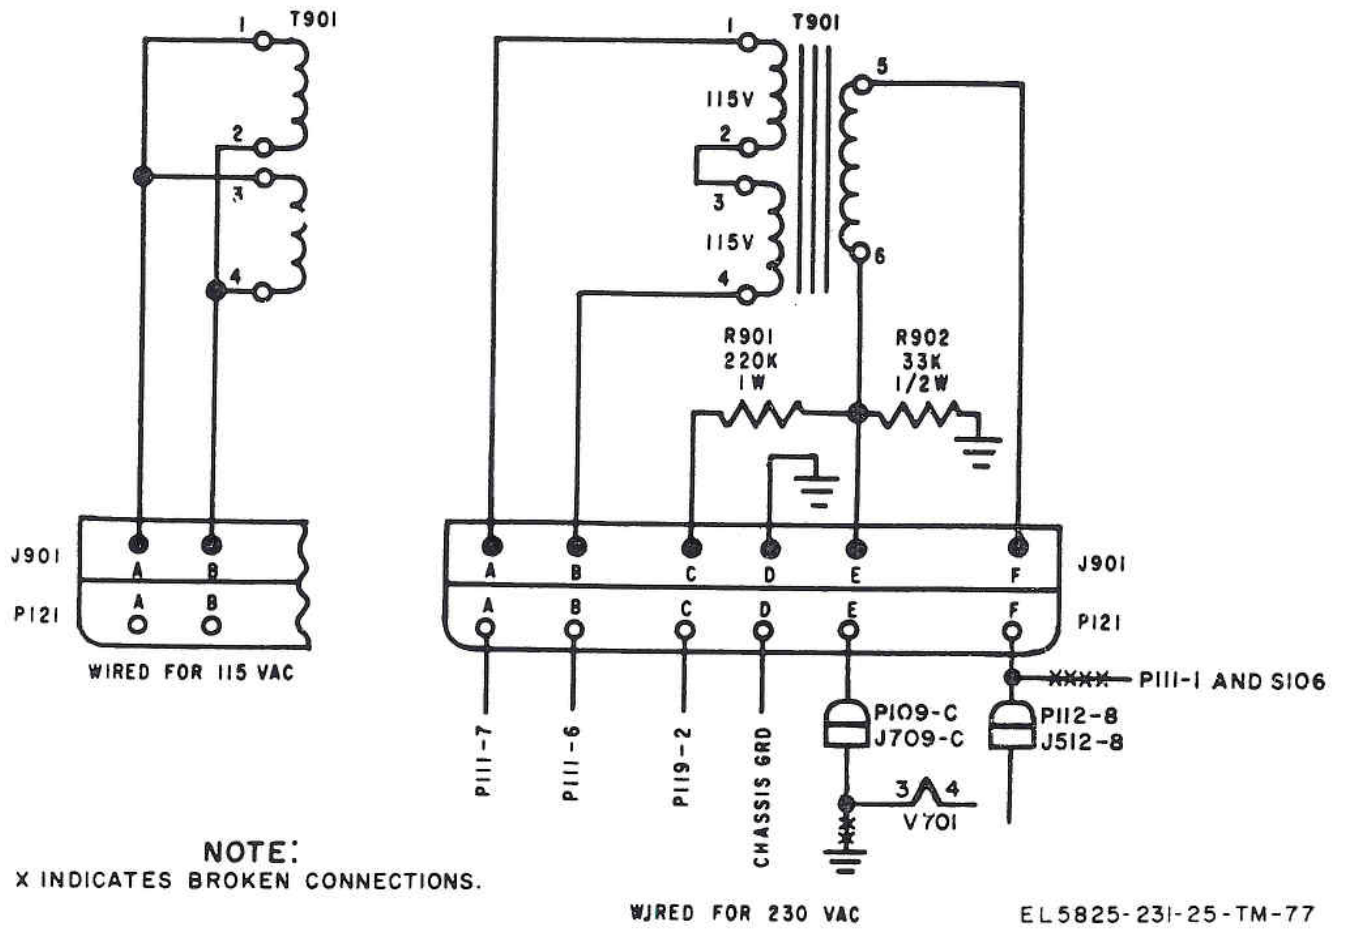

Figure 6-5. R-390A/URR receiver modification.
(a) A hum-bucking circuit has been added to the R-390A/URR as shown in figure 6-5 to improve performance. This modification places a positive dc voltage on the filament of the variable frequency oscillator (vfo) (V701) in the receiver, reducing the heater-to-cathode leakage of 60 Hz into the signal.
(2) The following wiring modifications have been made to reduce hum (fig. 6-5):